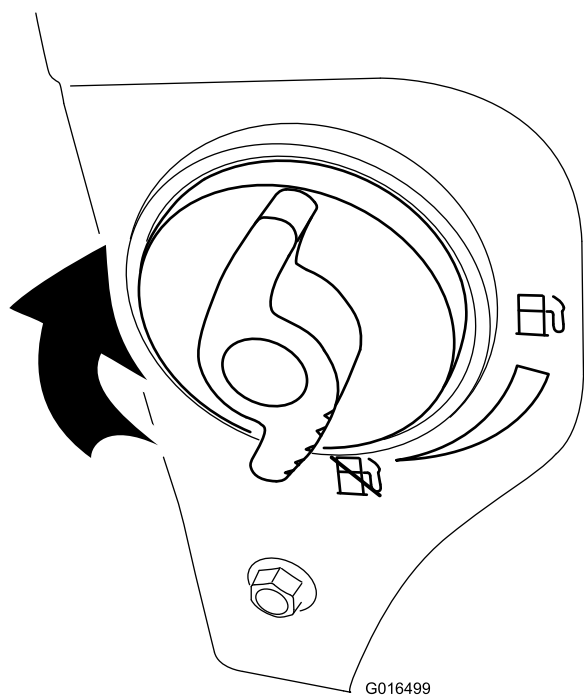

Figure 33
4. Close the fuel-shutoff valve by rotating it clockwise (Figure 33).